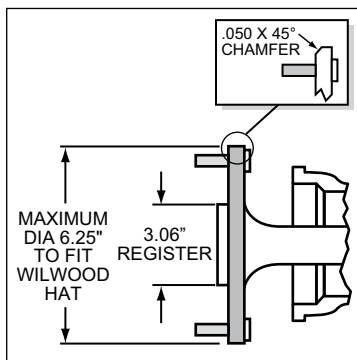

Figure 3. Axle Flange Maximum Dimension
- Axle center register diameter is 2.53" or 2.78", Figure 3. This kit uses Wilwood's removable center register adapters. Rotors can either be centered on the axle register, i.e. *register-centric* or centered on the wheel studs, i.e. *stud-centric*. Due to variations in wheel stud final diameters, *register-centric* centering can be a more accurate method of centering the rotor to the axle. Wilwood offers various diameter adapters for purchase in addition to the ones supplied in this kit, see Table 1.
- Maximum axle flange diameter must be no larger than 6.25" w/.050" x 45° chamfer, Figure 3.